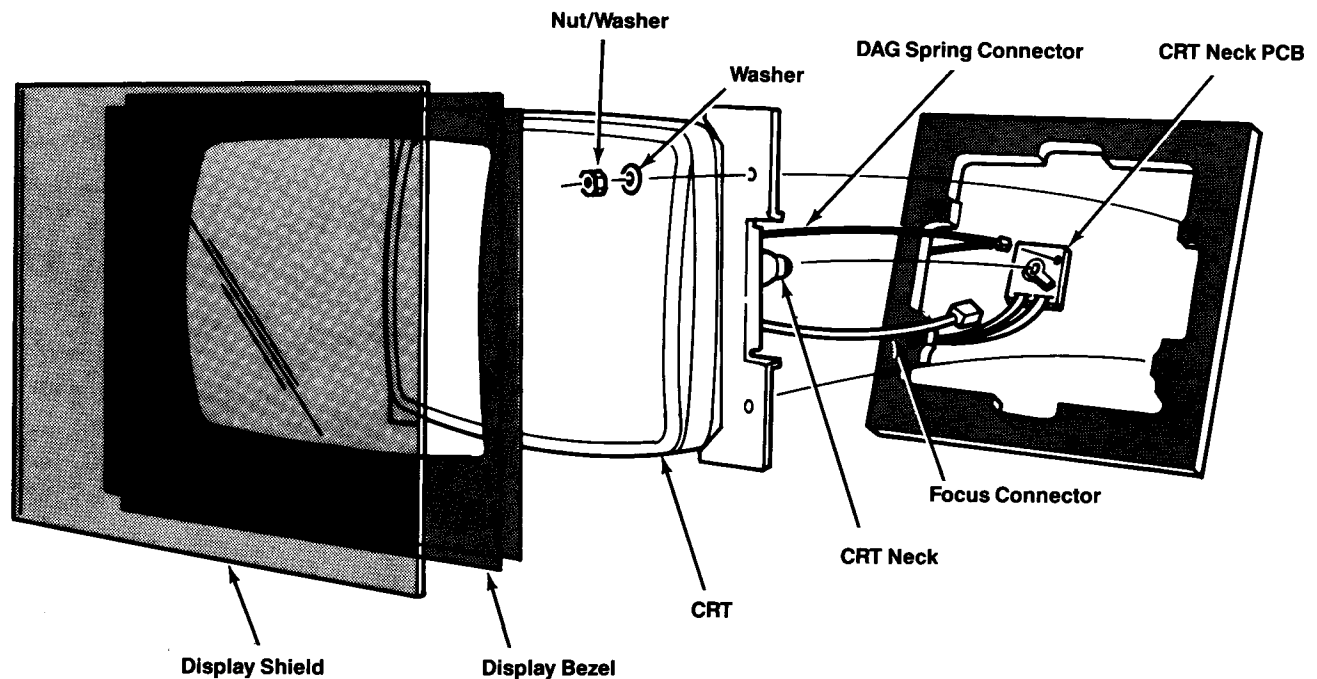

Figure 4-5 CRT Removal
3. Disconnect the following wiring (see Figure 4-5):
7. Carefully remove the 4 nut/washer assemblies that secure the CRT to the cabinet (see Figure 4-5).